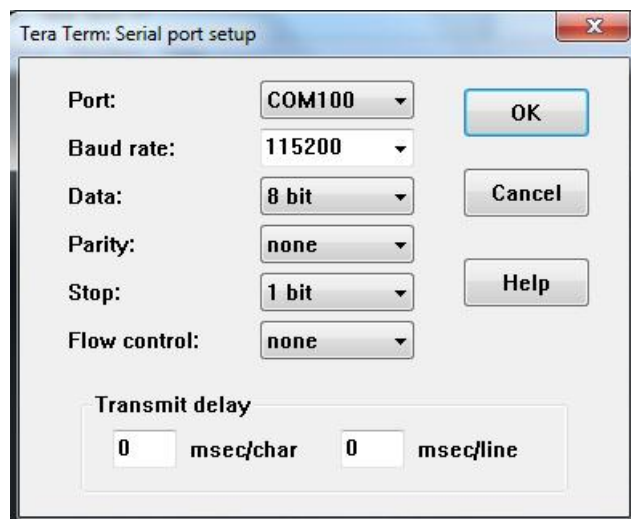

Figure 11. Serial Port Setup for CLI
The gateway can be controlled or monitored using the CLI over UART. To start CLI, open any terminal application on the laptop or PC that is connected to the gateway. Figure 11 shows the serial port setup for CLI.
2. Setup the serial port with baud rate 115200 as shown in Figure 11.